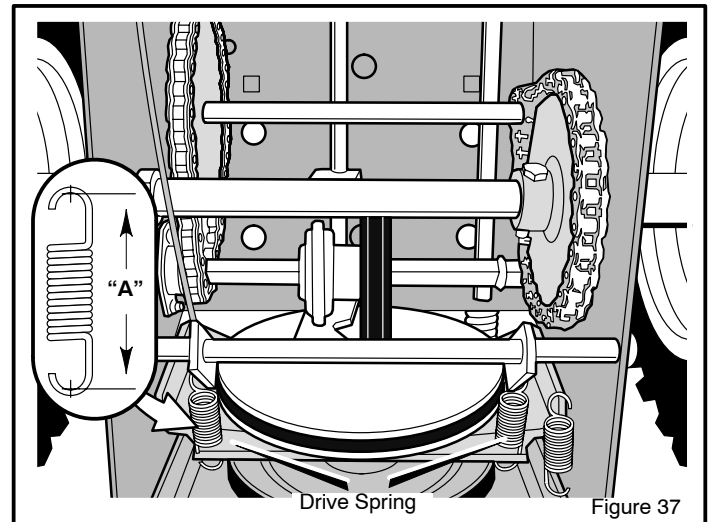

Figure 37
9. To check the adjustment, depress the drive lever and check the length of the **drive spring** (see Figure 37). In correct adjustment, the length of the **drive spring** is